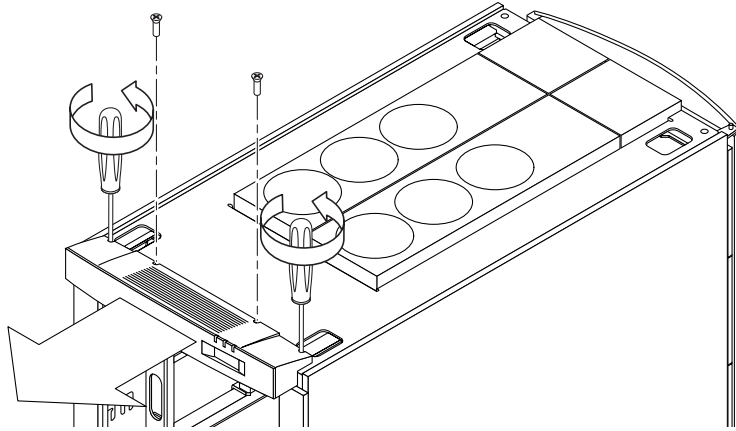

FIGURE 3-2 FrameManager Removal—Step 1
1. Loosen the screws at the back of the assembly (FIGURE 3-2).